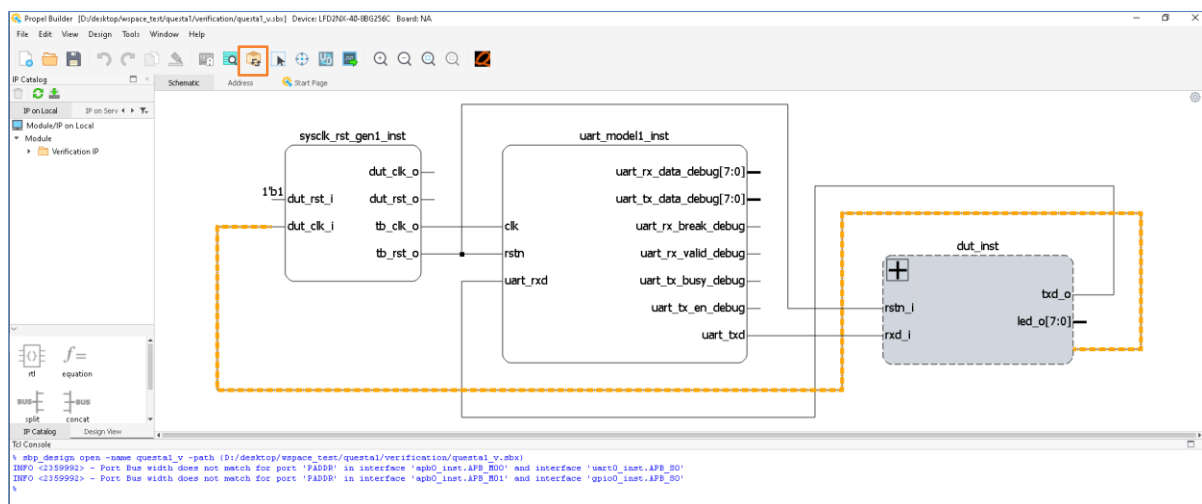

Figure 2.191. Generate Simulation Environment on Verification Project
- In verification project view, click Generate icon  in the Propel Builder Toolbar (Figure 2.191).
- SoC design project is called `***.sbx`. Verification project is called `***_v.sbx` (Figure 2.191).